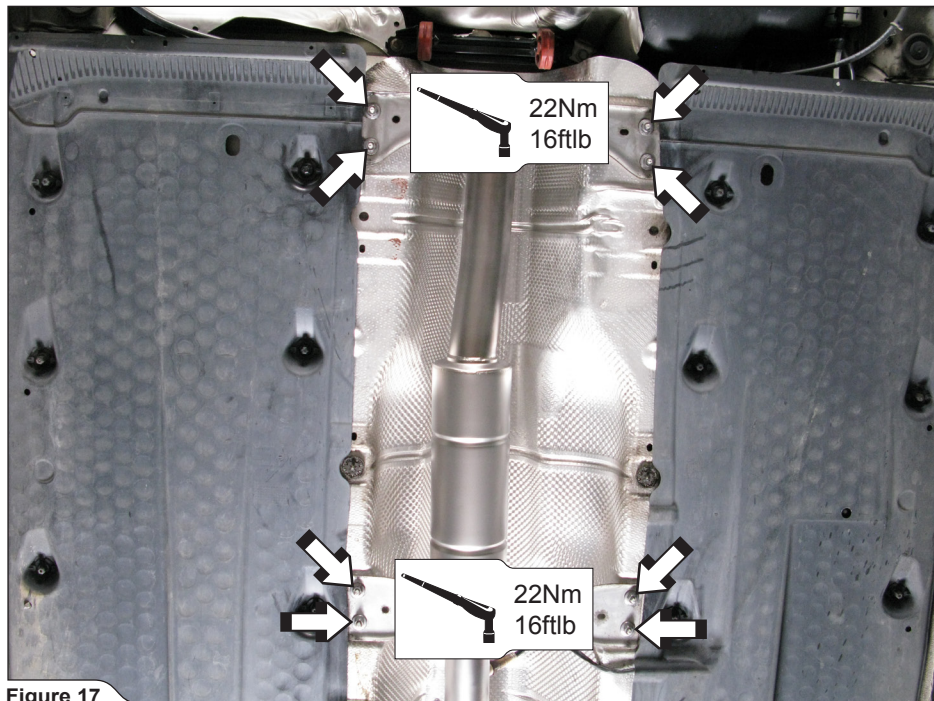

Figure 17
5. Assemble the two reinforcements back onto the chassis (Figure 17).